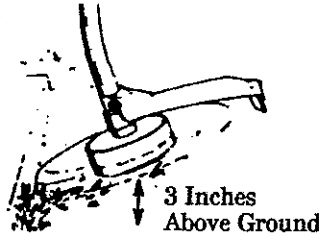

Figure 14
1. **TRIMMING** - Figure 14 . Hold the bottom of the trimmer head about 3 inches above the ground and at an angle. Allow only the tip of the line to make contact. Do not force the trimmer line into the work area.